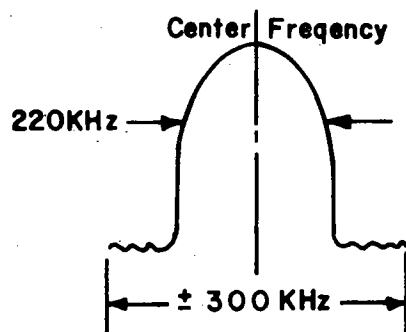

Figure 3
3. Tune the FM Generator, modulated  $\pm 300\text{KHz}$  @ approximately 20uv output level to the receiver frequency. Connect a RF detector probe to Pin 6, of the TA7061 (IC201) and center the FM IF response on the oscilloscope. The FM IF bandpass characteristics are now being displayed. Adjust transformer core, of the RF converter (T101) for maximum gain and symmetry (see Figure 3).